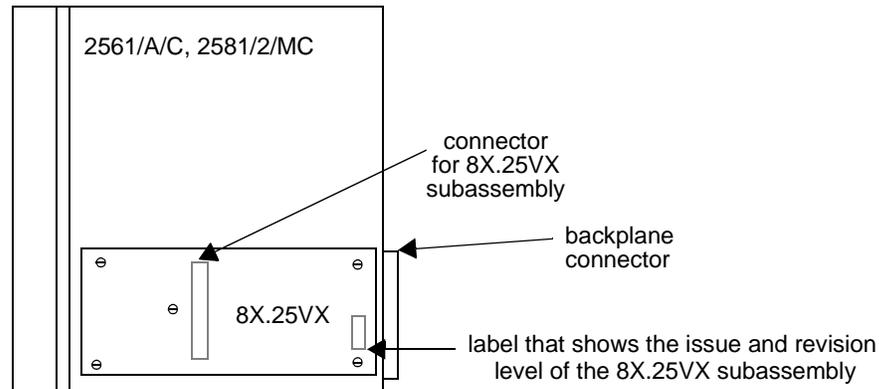

Figure 5-2 8X.25VX subassembly mounting on the 2561/A/C and 2581/2/MC
- 5.5 The 8X.25VX subassembly mounts on the 2561/A/C and 2581/2/MC echo cancellers, as shown in Figure 5-2.